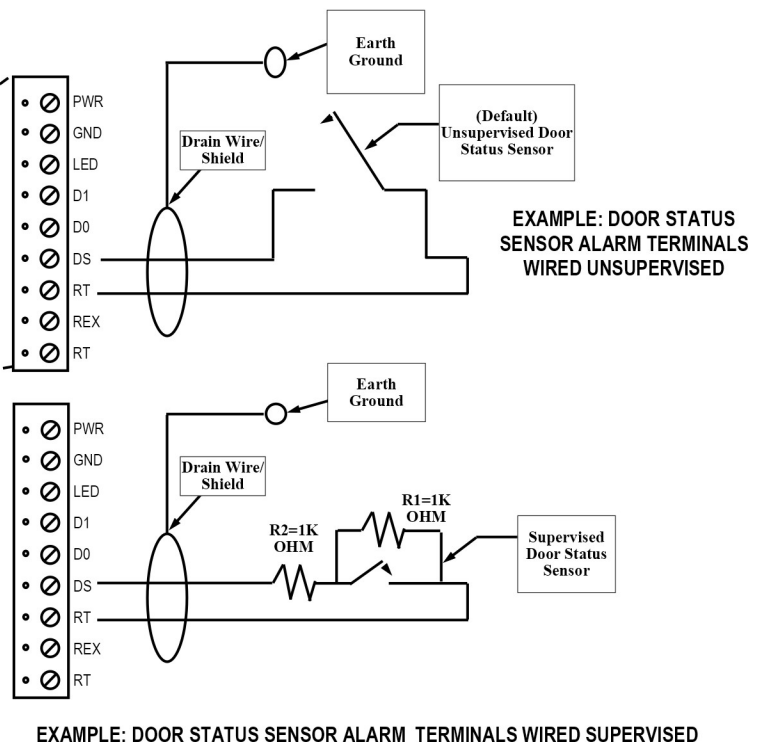

Figure 10 - Door Status Sensor to NA-1 Input Connections. Plain (Unsupervised) Contacts, and Supervised Contacts
Door Status sensors connects to the NA-1 through the terminal strip labeled RDR1. The Door Status Contact gets wired to screw terminals labeled **DS** / **RT** on the reader terminal block and can be wired unsupervised or supervised (see figure 10). For Input Mapping See Appendix A on page 33.
Door Status sensors require a 22AWG, 2-conductor, stranded, shielded, cable with drain wire between the NA-1 and the particular unit (see Figure 10). Table 8 lists the cable gauge-vs.-length requirements for proper operation of the NA-1 and the Door Status sensor.
2. Install R1 in parallel with the alarm contacts (see Figure 10).